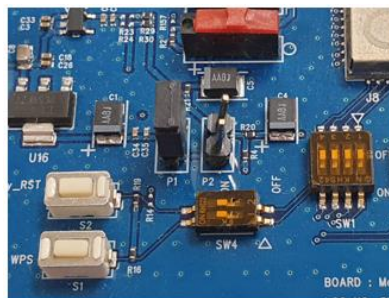

Figure 59. Set up DA16200 EVB jumper
2. To disconnect the USB power and source from the Pro board only, open the jumpers (P2) of the power line on the DA16200 EVB as shown in Figure 59.